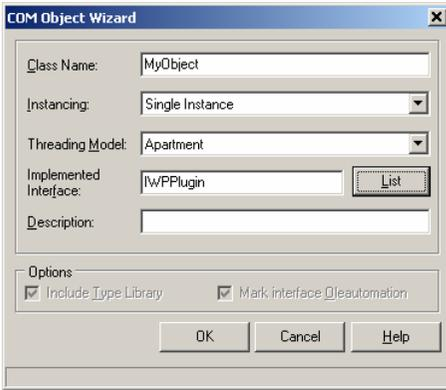

Fig 2.1 COM Object Wizard
3. Create a new COM object: **File**→**New**→**Other...**→**ActiveX**→**COM Object**. The dialog *COM Object Wizard* (Fig. 2.1) will be appeared.